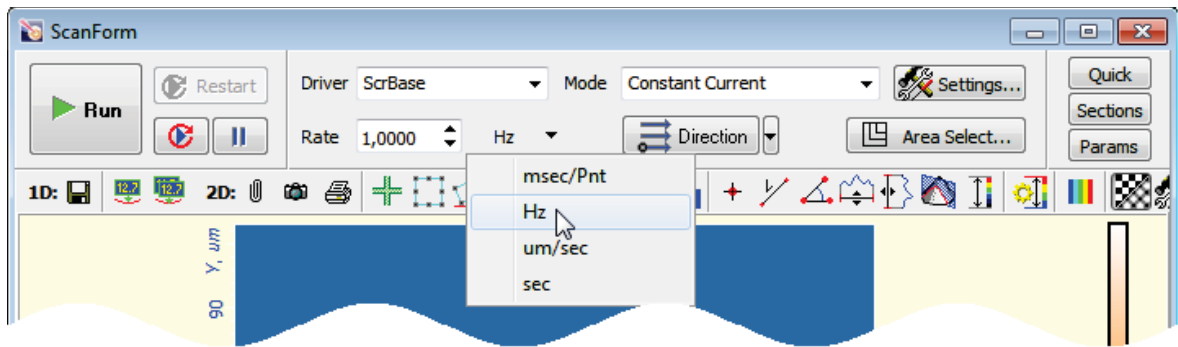

Fig. 10-11. Control panel of Scanning window
1. In the Control panel of the **ScanForm** window, select unit of scan rate measurement (Fig. 10-11). For example, the **Hz** item is associated with the line scan frequency in Hz.